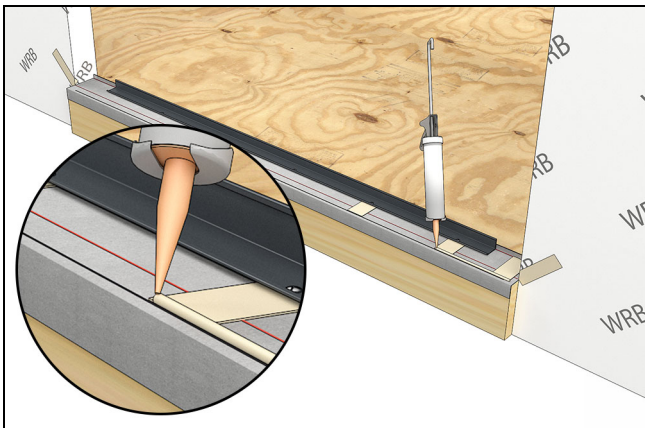

Figure 33 Performance/Low profile sill
1. **Performance/Low Profile Sills:** Apply a bead of sealant to the interior side of the line you marked earlier. See Figure 33.